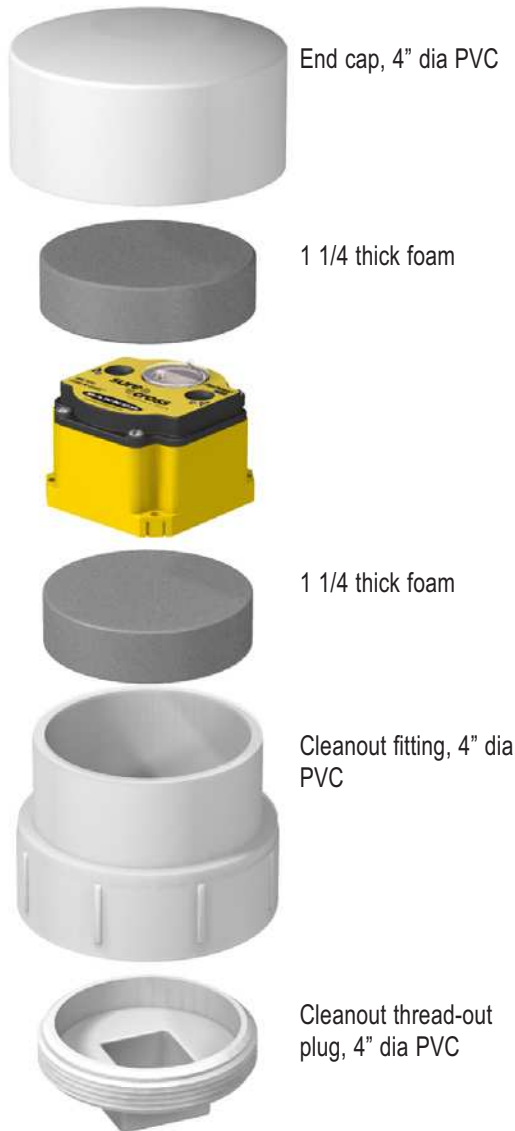

Figure 4. Additional items needed but not shown: 1/2" wide PTFE seal tape, PVC primer, PVC cement
8. Insert the M-GAGE Node into the capsule on top of the first foam piece as shown in figure 4.